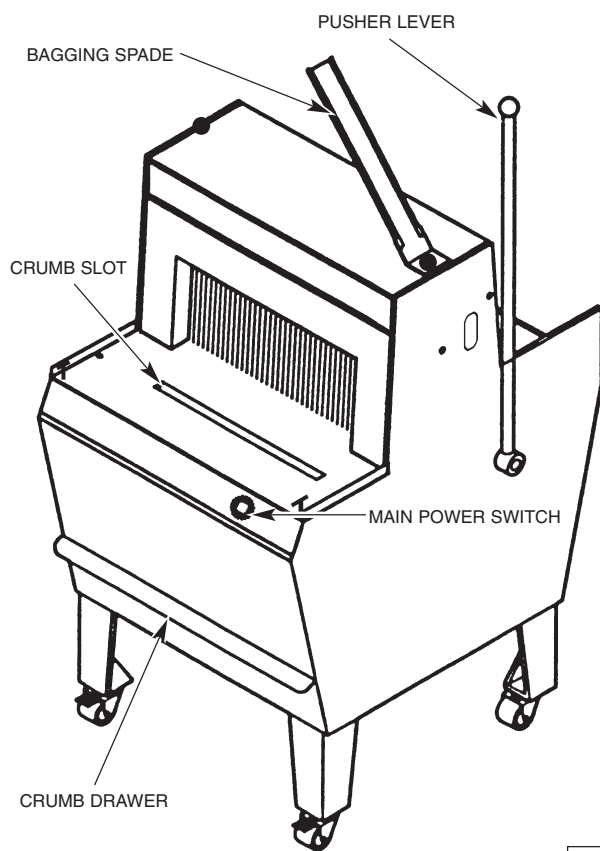

Fig. 1
**Pusher Lever** — Pull the Pusher Lever forward (Fig. 1) to start machine operation (the STOP Switch is pulled out and the crumb drawer is closed).